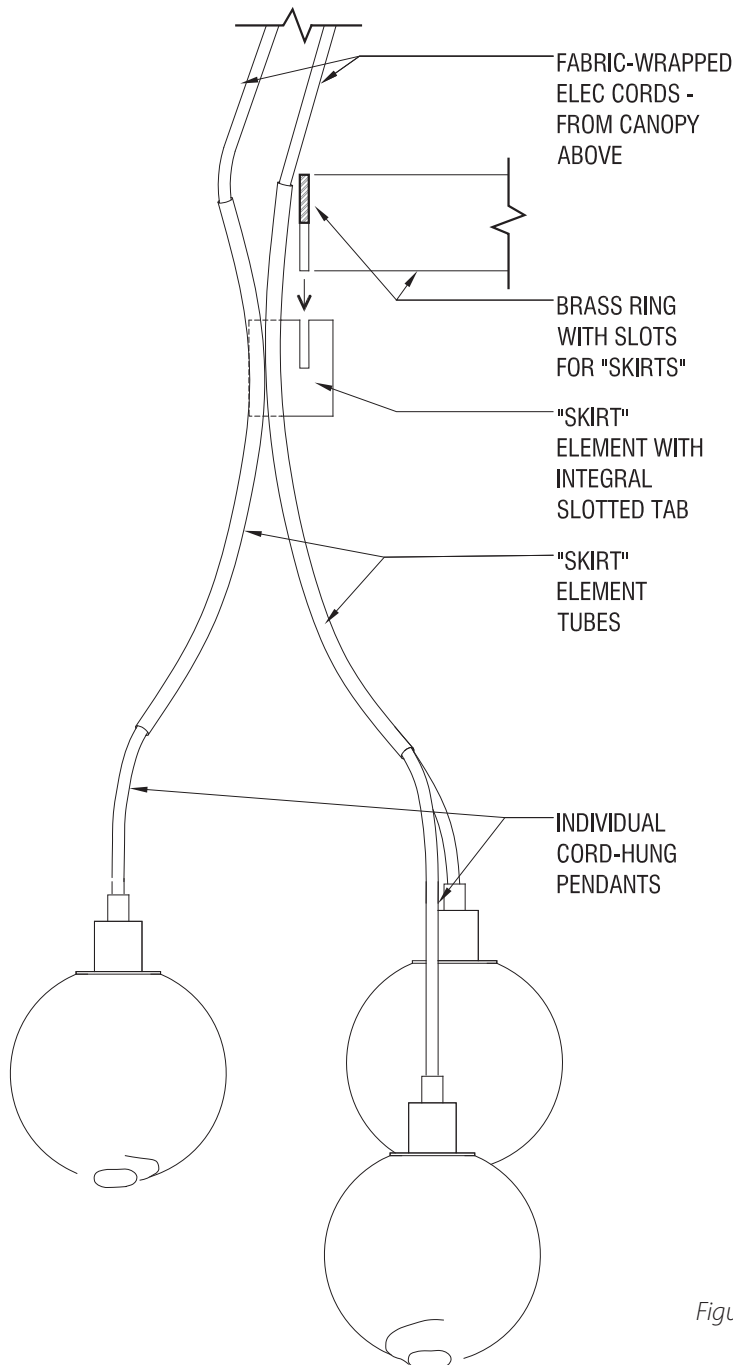

Figure 5. Install ring into "skirt" elements
7 Attach the support cable(s) to the loop(s) on the inside/top of canopy by means of the provided quick-link at the free end of the cable (Figure 5).
- 9 Unwrap the protective packaging from each of the 6 brass "skirt" elements. Install the slotted ring by positioning it with the slots facing down and then working one at a time, carefully fit slot the tab on each "skirt" into the corresponding slot on the ring (Figure 5). The "skirts" were positioned at the correct height during your fixture's assembly, but some slight adjustments may be necessary to get the bar level and the cords visually taut above the "skirts". The cords are loose within the tubes of the "skirts" and can be gently adjusted slightly up and down, but be extremely careful and make no more adjustments than are necessary to achieve a level ring.